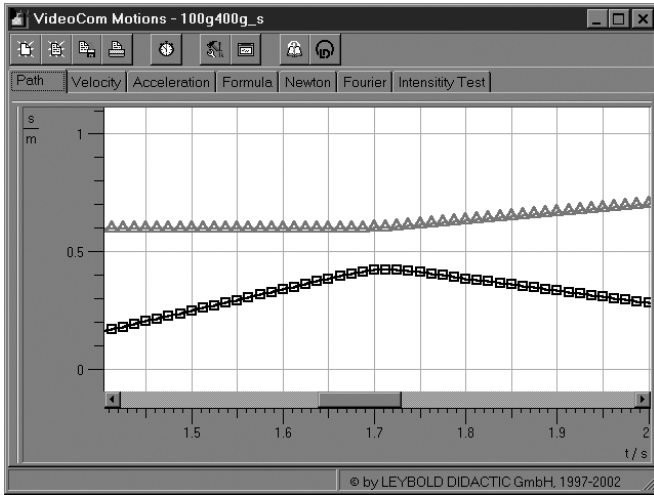
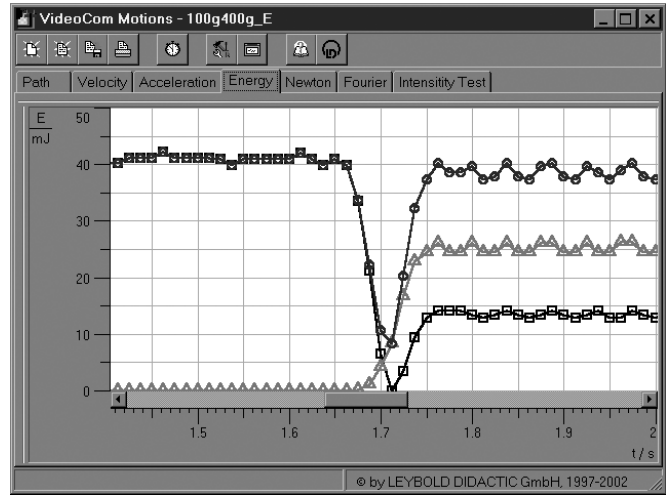

Fig. 14 Path-time diagramm for $m_1 = 100\text{g}$, $m_2 = 400\text{g}$
Fig. 17 Kinetic energy-time diagram for $m_1 = 100\text{g}$, $m_2 = 400\text{g}$
After the collision, the two gliders move uniformly in opposite directions (see Fig. 14). The glider 1 retains 36 % of its kinetic energy after the collision, and 64 % of the kinetic energy are transferred to the glider 2 (see Figs. 17 and 18, cf. (IV) and (V)). The total momentum and the total energy before and after the collision are equal. The total momentum is also conserved during the collision.